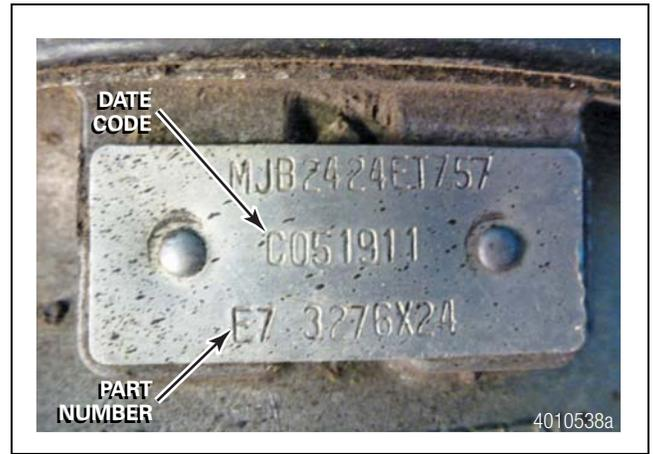

Figure 3
3. Check the identification tag for a date code falling on or between the date range of November 23, 2010 and March 31, 2012. As an example, the date code shown in Figure 3 (C051911 centered in ID tag) means "built on May 19, 2011". In this example, the chamber requires replacement. Figure 3.